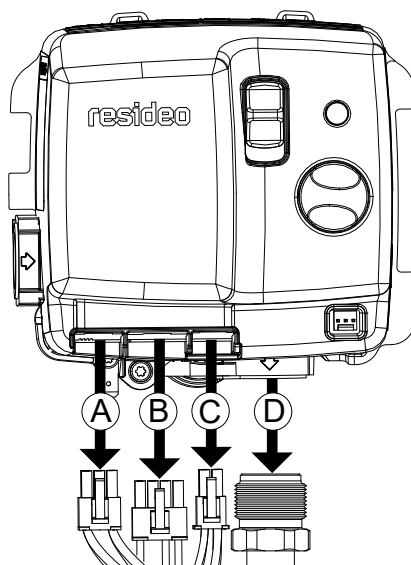

Figure 41 - Gas valve connections at thermostat.
- 6 Disconnect (A) (B) and (C) from the thermostat (See Figure 41).
- 7 Disconnect the manifold tube at the gas control valve/ thermostat (D) (Figure 41).